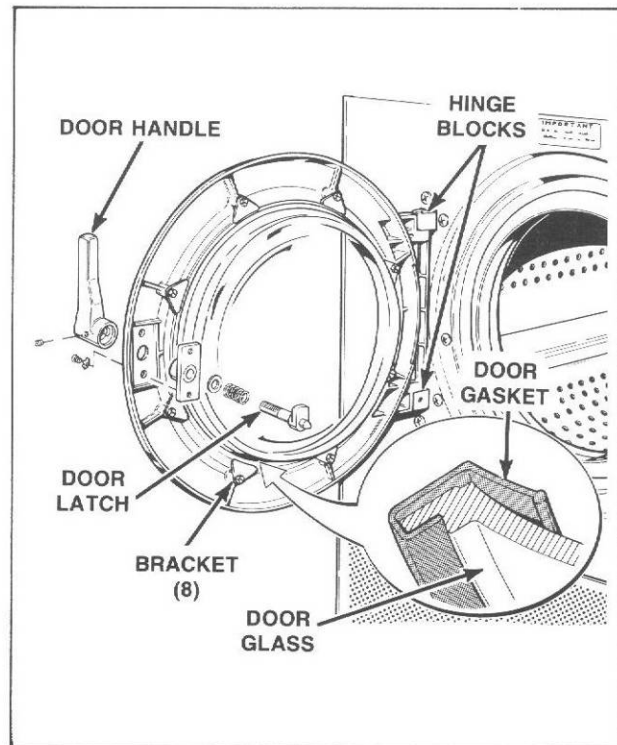

Figure 5
**7. DOOR LATCH AND HANDLE** (Refer to Figure 5)
**8. DOOR GLASS AND GASKET** (Refer to Figure 5)
**9. LOADING DOOR ASSEMBLY** (Refer to Figure 5)